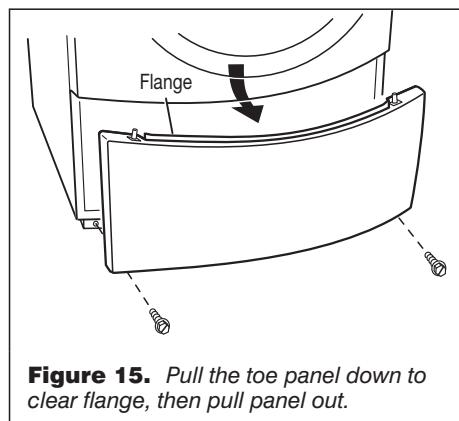

Figure 15. Pull the toe panel down to clear flange, then pull panel out.
3. Slide the toe panel down, then pull it out from the bottom. See figure 15.